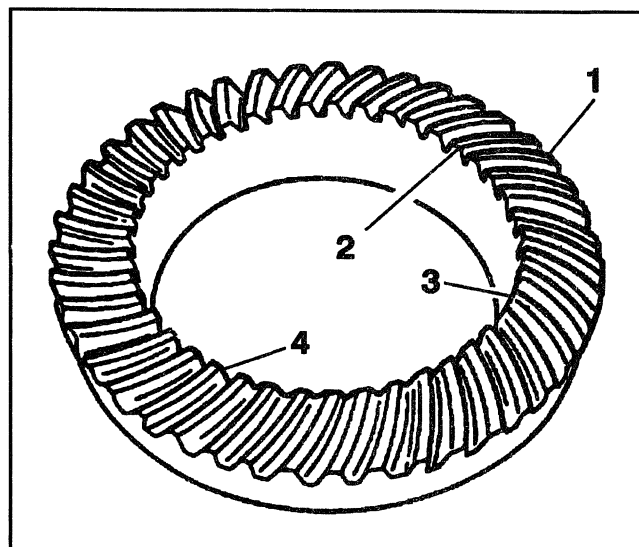

Figure 39—Gear Tooth Terms
The side of the ring gear tooth which curves outward, or is convex, is referred to as the "drive" side (4). The concave side is the "coast" side (3). The end of the tooth nearest center of ring gear is referred to as the "toe" end (2). The end of the tooth farthest away from the center is the "heel" end (1). The toe end of the tooth is smaller than the heel end (Figure 39).